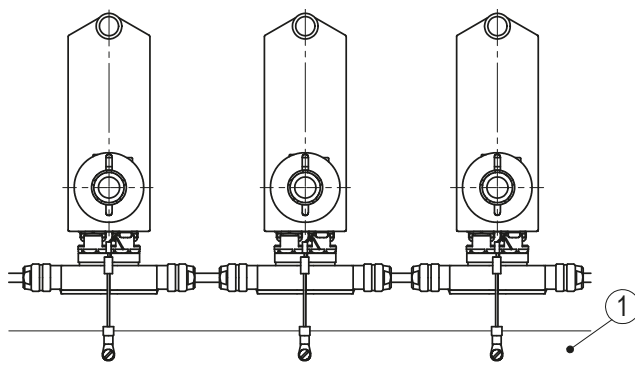

Fig. 9: Ground bar
For protection against interference, the screens of the signal lines and the power line must be connected on both sides. Potential differences cause inadmissible currents on the screen. Apply the PE connection ① to the protective conductor potential below the connecting plugs (see Fig. 5). Use 6.3 mm flat connectors with short strands 2.5 ... 4 mm2 (not in the scope of delivery). For multiple actuators we recommend connecting the earthing to a ground bar ① (see Fig. 9).